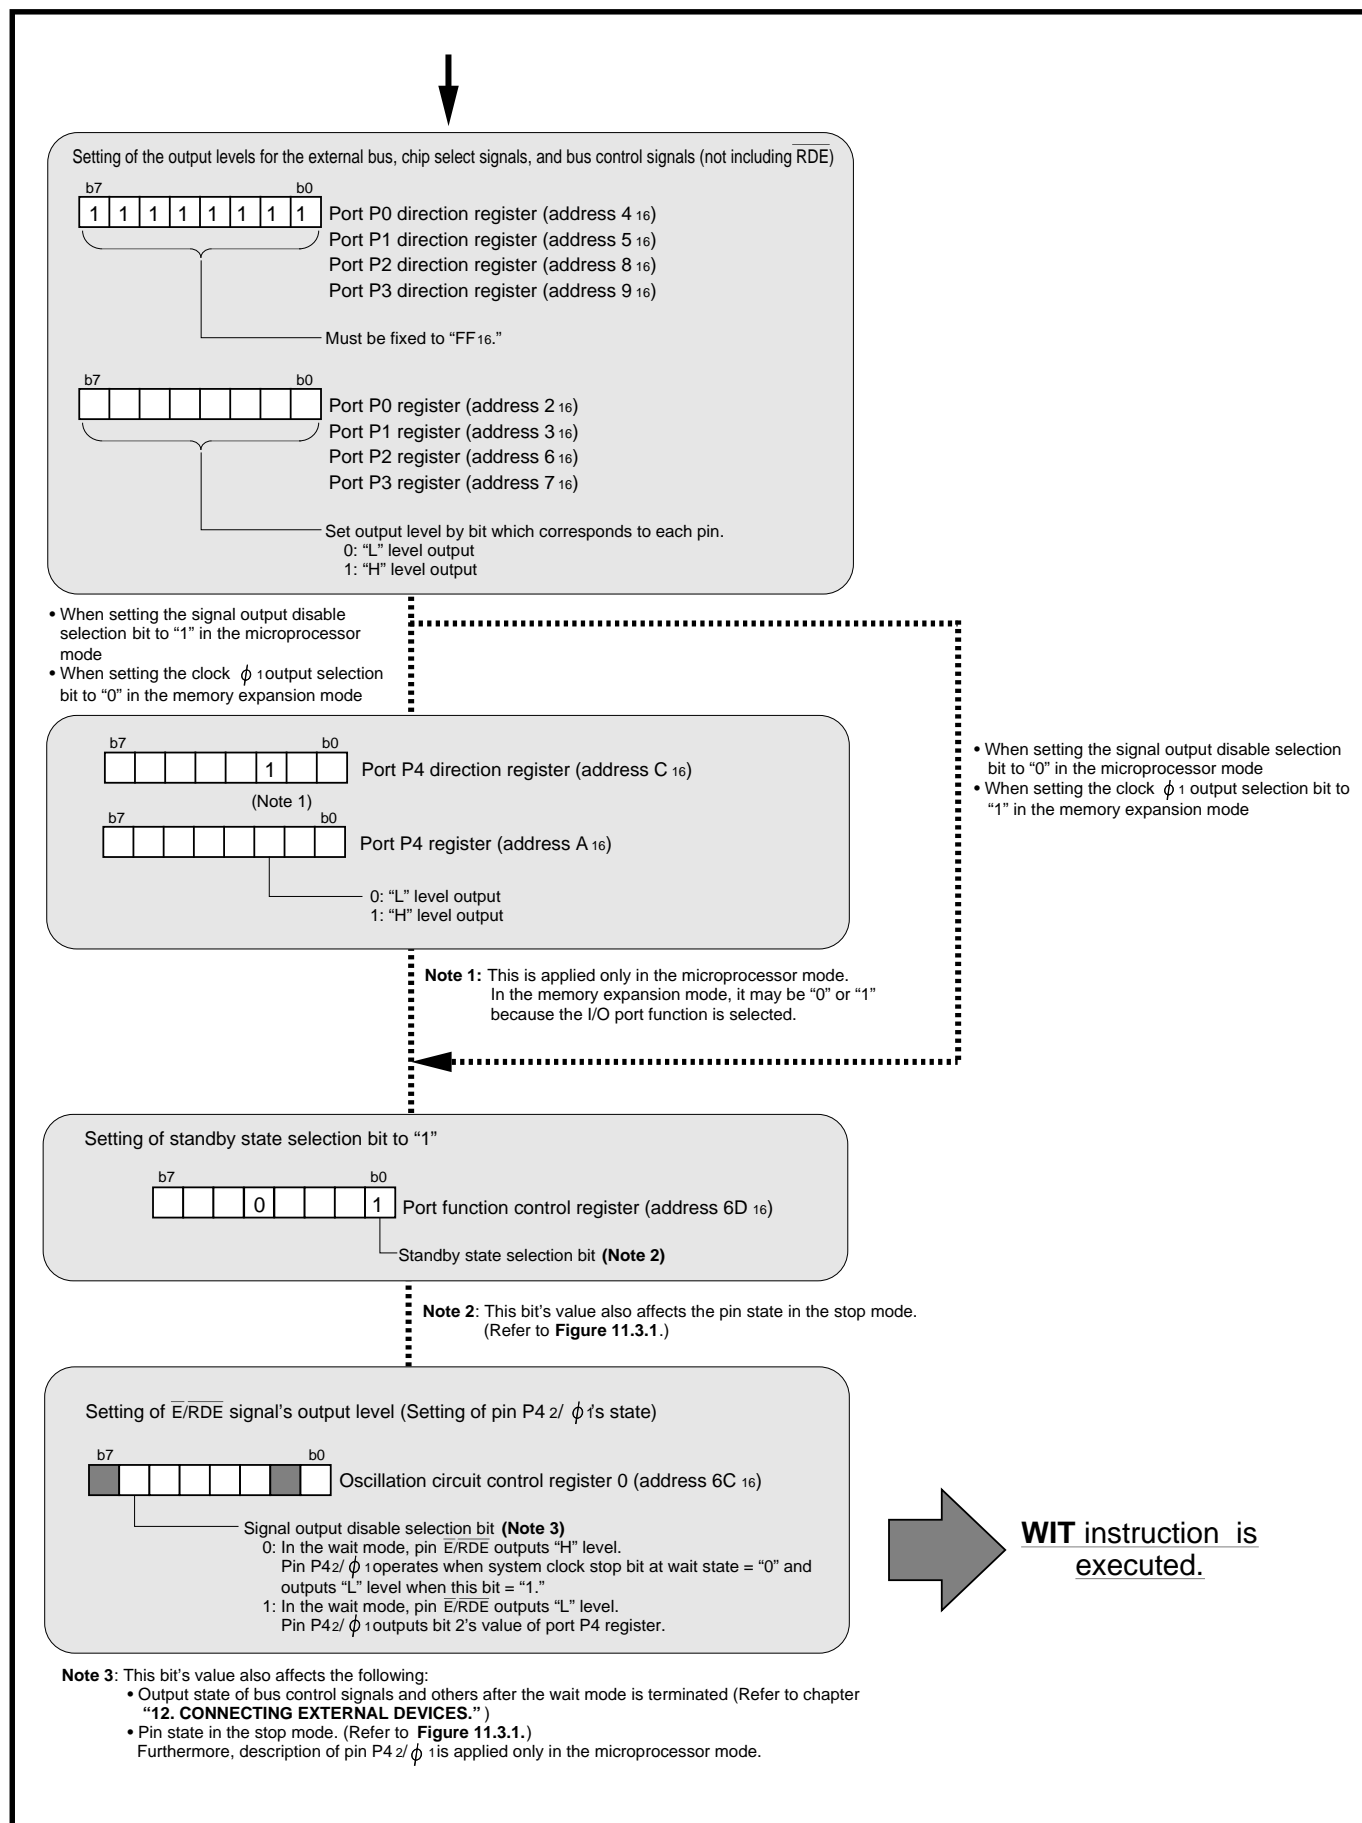

Fig. 11.4.1 Output level setting example in wait mode (Memory expansion or Microprocessor mode)
- **Table 11.4.2 and Figure 11.4.1**
Standby state selection bit*1: Bit 0 at address 6D16 (Refer to **Figure 11.4.1**.)